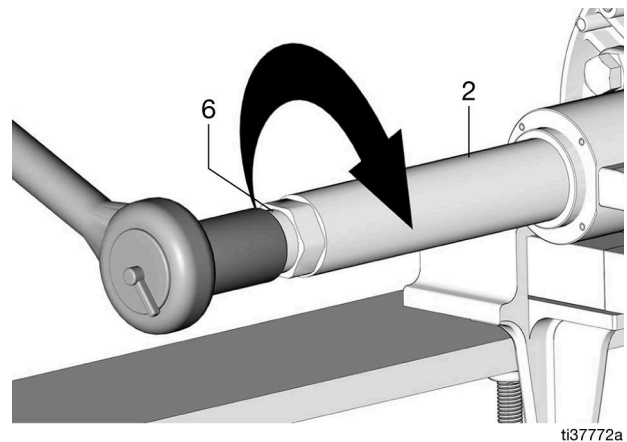

FIG. 31
- Using a 1-7/16 in. socket, tighten the seal retainer (6) to the pump cylinder (2) assembly (torque 100 - 110 ft-lb/135.6 - 149.1 N•m) (FIG. 31).